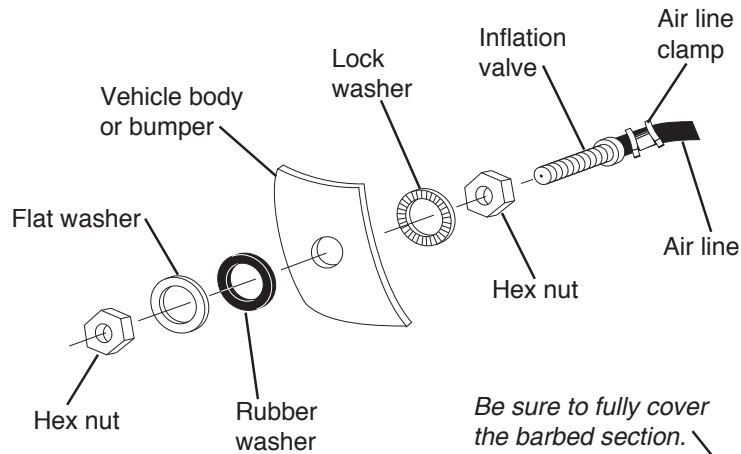

fig. 12
9. There is a hole in the lower bumper support where the inflation valve (N) can be installed. Cut the hose to length and install onto the barbed stem of the inflation valve as you installed the hose on the tee and the air spring stem. (Fig. 12)
10. Install the valve in the mounting hole. (Figs. 12 & 13)
7. Drill 5/16 " hole for inflating valves and mount as illustrated. Rubber washer is for outside weather seal (see Fig. 12).